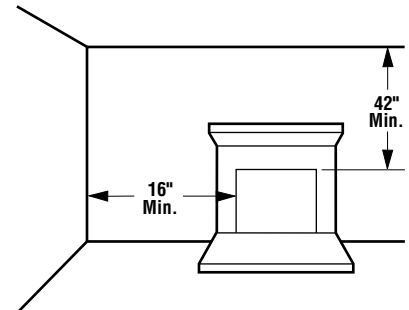

Figure 1
***Note:** Illustrations shown in this manual reflect "typical" installations with nominal dimensions and are for reference only. Actual installations may vary due to individual design preferences. However, always maintain minimum clearances to combustible materials and do not violate any specific installation requirements. Refer to Figures 1 through 7 for clearances.*
Ensure the minimum clearances shown in Figures 1 through 7 are maintained. Left and right clearances are determined when facing the front of the heater.
Step 1. Sidewall Clearances: The sides of the fireplace opening must be at least 16" from any combustible side wall (Figure 1).
Step 2. Ceiling Clearance: The ceiling must be at least 42" from the top of the heater opening (Figure 1).